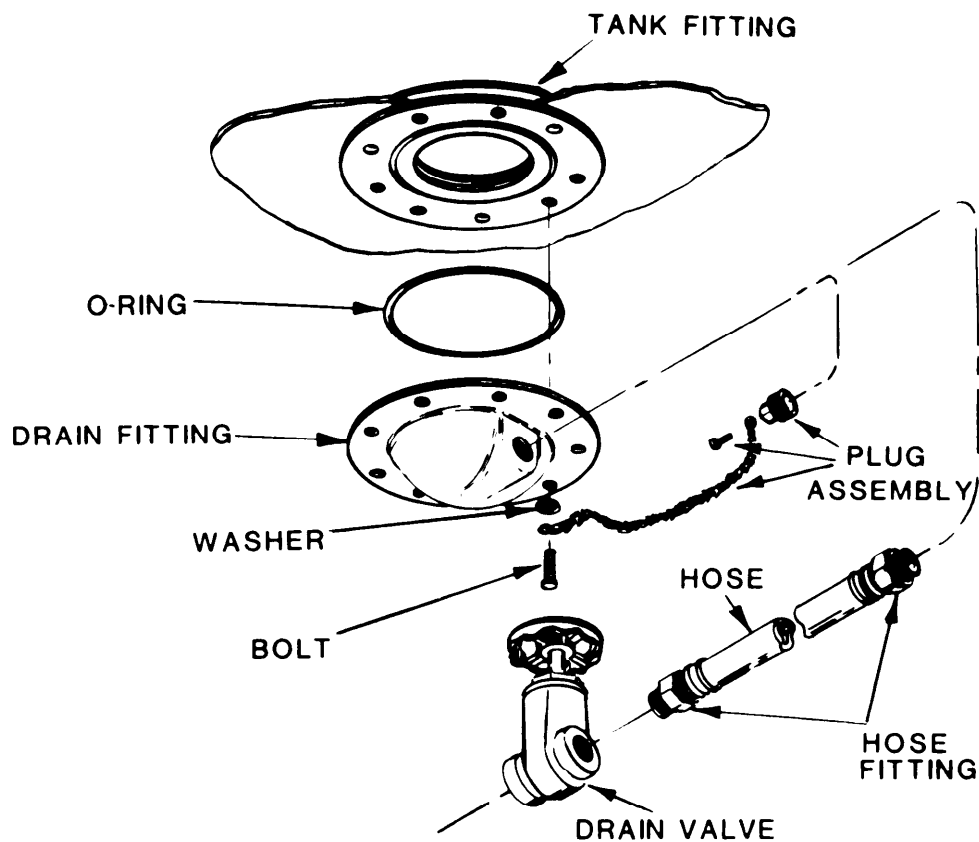

Figure 1-4. Drain Assembly
- d. Drain Assembly (See Figure 1-4). The drain assembly consists of a drain fitting, a drain hose and a drain gate valve. When assembled, the drain fitting is attached to the tank fitting. The drain hose connects the drain fitting to the drain gate valve. The drain assembly is used to drain residual fuel or trapped moisture from the bottom of the tank. The drain assembly must be in place with the drain gate valve fully closed before storing fuels. When the tank is not in use, the hose connection on the drain fitting is closed with a drain plug.